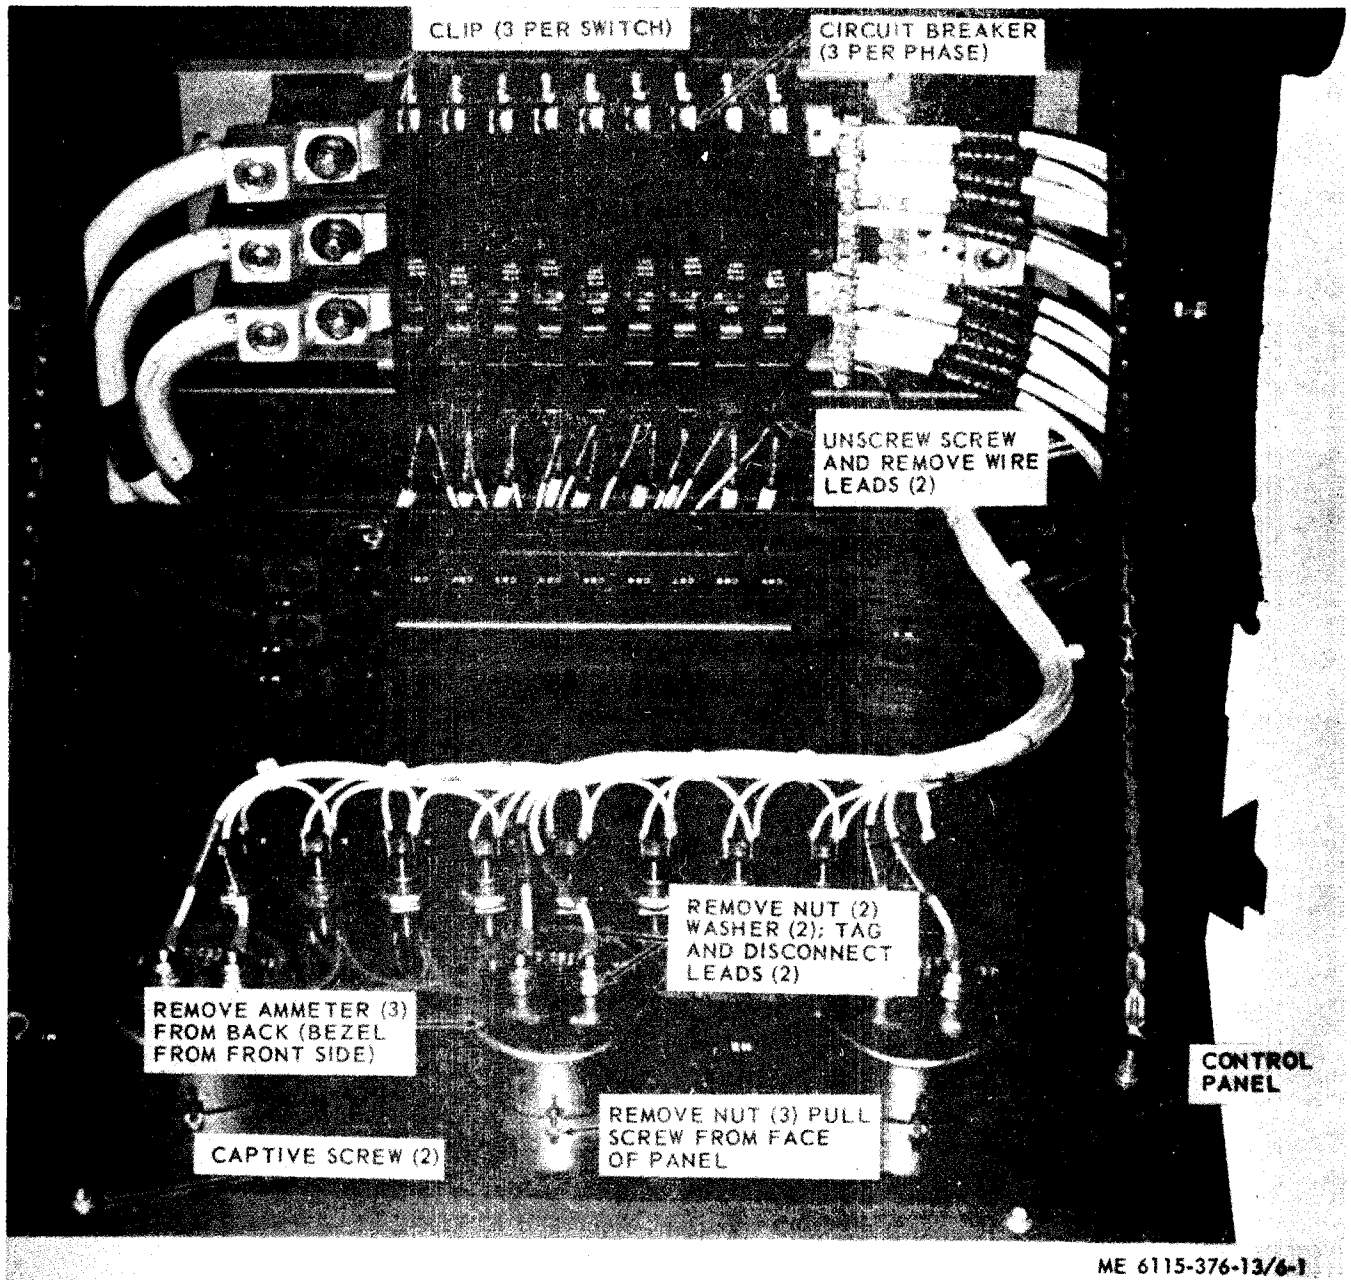
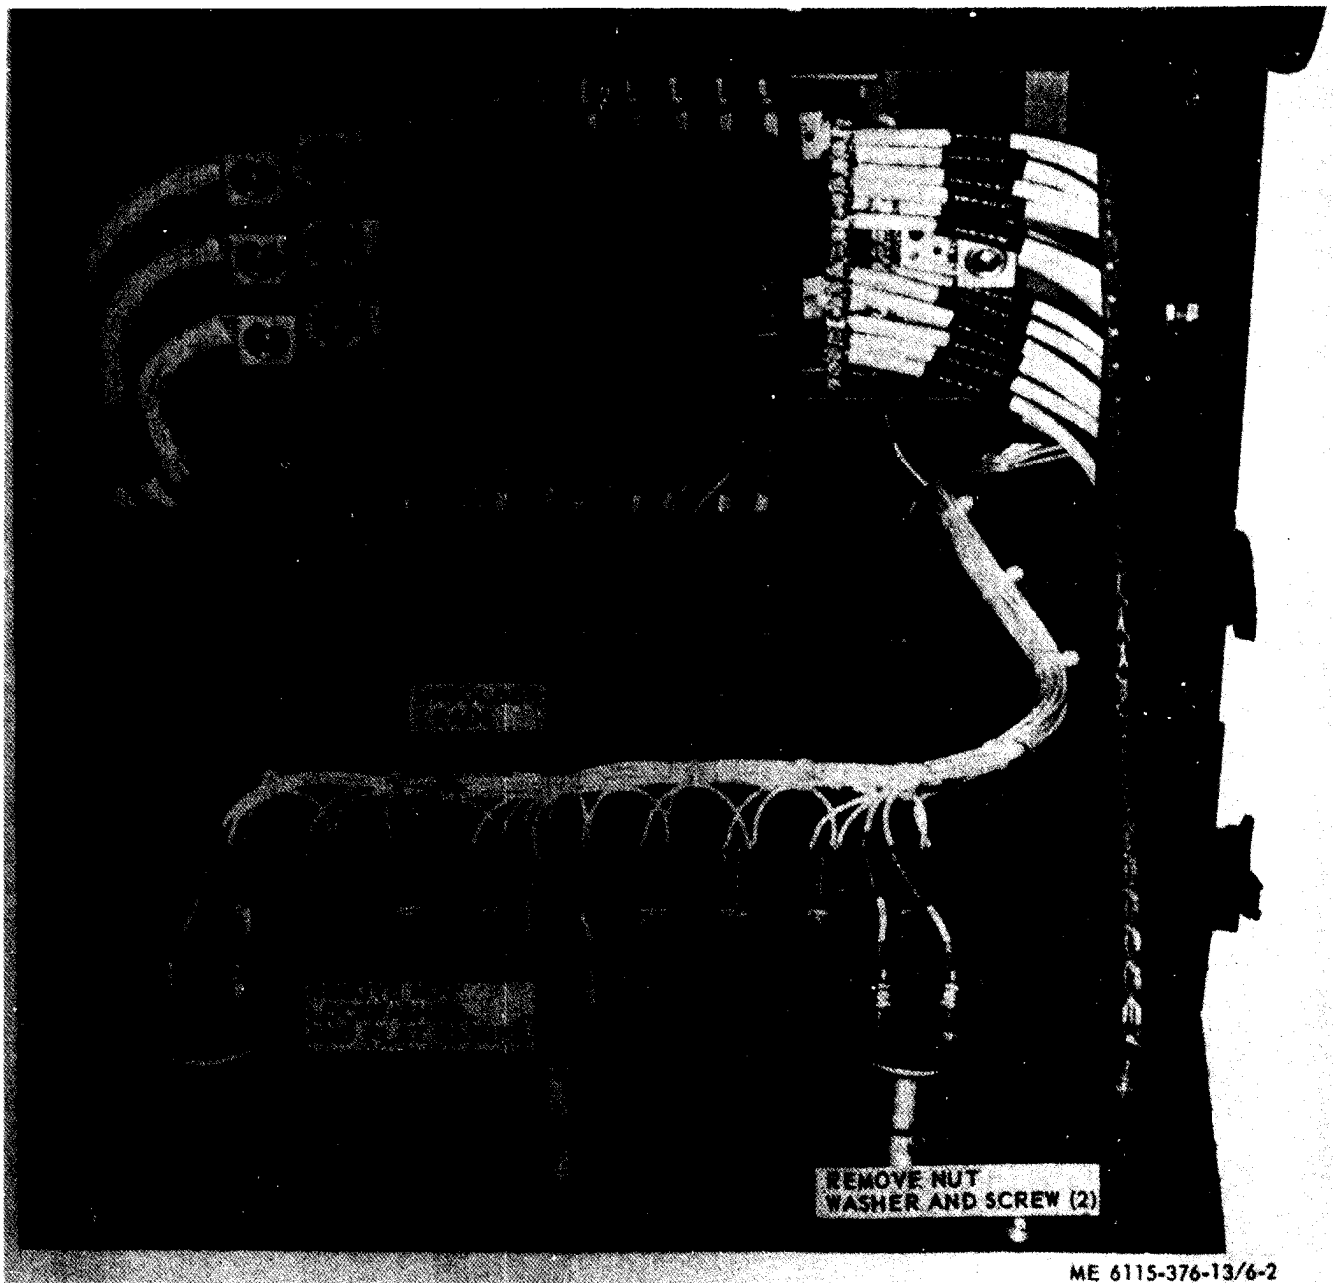

Figure 6-1. Distribution box circuit breakers and ammeters, removal and installation.
Figure 6-2. Lamp socket assemblies and chain removal and installation (distribution box, all units).
(1) If necessary, remove distribution box from trailer or truck (para 5-6).
(2) Release captive screw at top corners of distribution panel and secure panel in open position (fig. 6-1).
(3) With screwdrivers on clip at top of defective circuit breaker, pry out on clip at top and bottom until center clip is clear of bus bar.
(4) Unscrew screw at bottom of circuit breaker and pull out the two wire leads.
(5) Place wire leads ((4) above) in position on replacement circuit breaker and tighten holding screw.
(6) Snap replacement circuit breaker into place on panel (see that clip is fully engaged at top and bottom).
(7) Close panel and secure captive screws.
b. Ammeters, Removal and Installation. To replace faulty ammeters, open distribution panel (a(2) above). Tag and remove wire leads and nuts (fig. 6-1); remove nuts holding meter to panel, (Remove meter from back side; bezel from front side). Put replacement meter into panel, add bezel and secure the 3 screws holding meter to panel. Replace wire leads and attaching hardware, Close and secure control panel.
(1) Open distribution panel (a(2) above).
(2) Unsolder all leads of the defective socket assembly (open laced cable if necessary).
(3) Unscrew lens from face of panel, remove lens and bayonet-type bulb, and unscrew threaded collar holding socket to face of panel, and remove collar.
(4) Unscrew and remove nut, lockwasher and flatwasher from back side of panel, and remove defective lamp socket assembly.
(5) Place replacement lamp socket assembly in panel; screw on threaded collar on face of panel, and flatwasher, lockwasher and nut to back of panel, draw nut up securely. Solder leads in same order as removed; add bulb and lens to face of panel (fig. 6-2).
(1) Prop cover in open position and open distribution panel (fig. 6-2 and 6-3).
(3) Remove nuts and washers and pull lamp socket assemblies from panel. Also pull ammeters from panel, Allow ammeters and lamp sockets to hang gently from wiring harness.
(4) Remove attaching hardware from chain (fig. 6-2), and remove attaching hardware from bottom of panel (fig. 6-3). Remove panel.
(5) Place replacement distribution box, and install form mounting screws (fig. 6-3) to hold panel to distribution box. Attach chains to panel. Gently install ammeters and lamp socket assemblies into proper position and secure with attaching hardware (fig. 6-1, 6-2 and 6-3). Check that all lamps are secure.